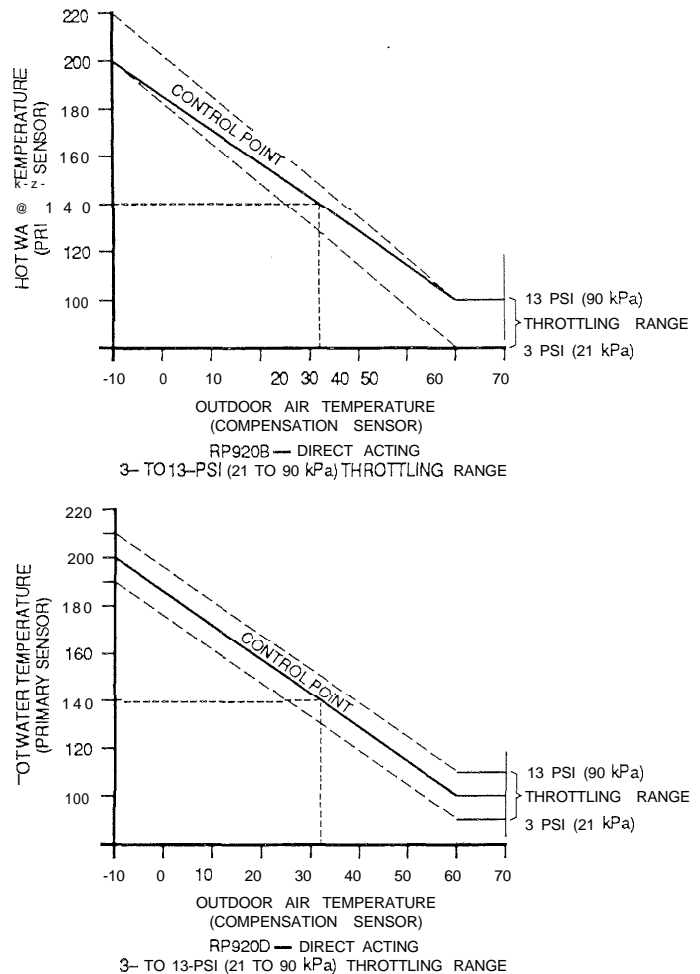

Fig. 4. RP920B and D Reset Schedule,
- b. Convert the reset schedule value to pressure (See APPENDIX A) and adjust the air supplies to those pressures. For an RP920D, the BLP should be 8 psi (55 kPa). For an RP920B, the expected BLP depends on which point on the reset schedule is being simulated. If BLP is not within 1 psi of the control point pressure, go to Step 10. Exact control point pressure can be established for each application by constructing a chart similar to that shown in Figure 4 and referencing APPENDIX A. If it is not correct, go to Step 10.
Select (Fig. 4) any compensation sensor value (outdoor temperature) within the compensation range, in this case 32F. Construct a line vertically to the control point line and then horizontally to the left side. The hot water temperature must be 140F to meet the reset schedule.